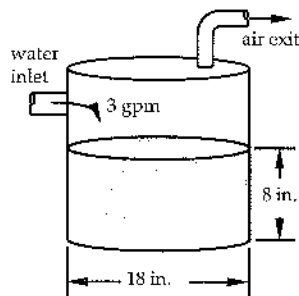

FIGURE P2.30.
30. Three gallons per minute of water enters the tank of Figure P2.30. The inlet line is 6.35 cm in diameter. The air vent is 3.8 cm in diameter. Determine the air exit velocity at the instant shown.